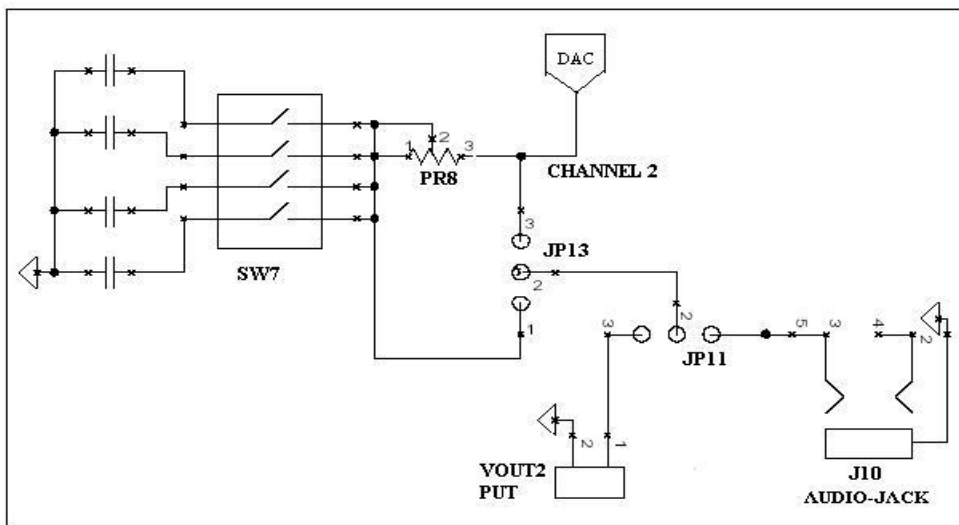

Figure 5: Reconstruction Filter
- Out-Channel 2, user has the option of either connecting its output directly to PUT terminal or through a “**Reconstruction filter**” (Low pass analog filter), as shown in Figure 5.